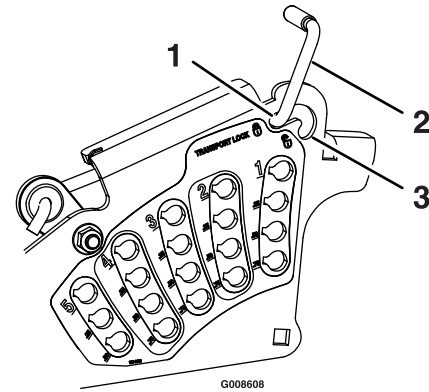

Figure 12
Position in the transport latching position to automatically latch the cutting deck when raised to the transport position (see item 1 in Figure 12).
In the non-latching position, the deck will automatically return to the cutting height when the pedal is lowered (see item 3 in Figure 12).